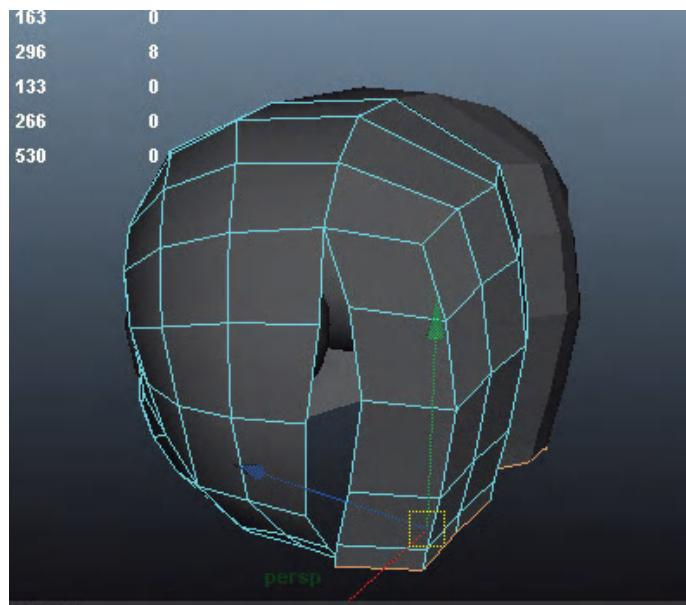

FIG 4.36 Extruding needed geometry across the back of the head.
Step 53: Continue extruding back down the head. In Fig. 4.36, notice the results of several extrusions. Notice that there are about as many extrusions down as there are horizontal edges of the side of the face. Also note that we aren't doing a lot of sculpting at this point – just creating the needed geometry (Fig. 4.36).